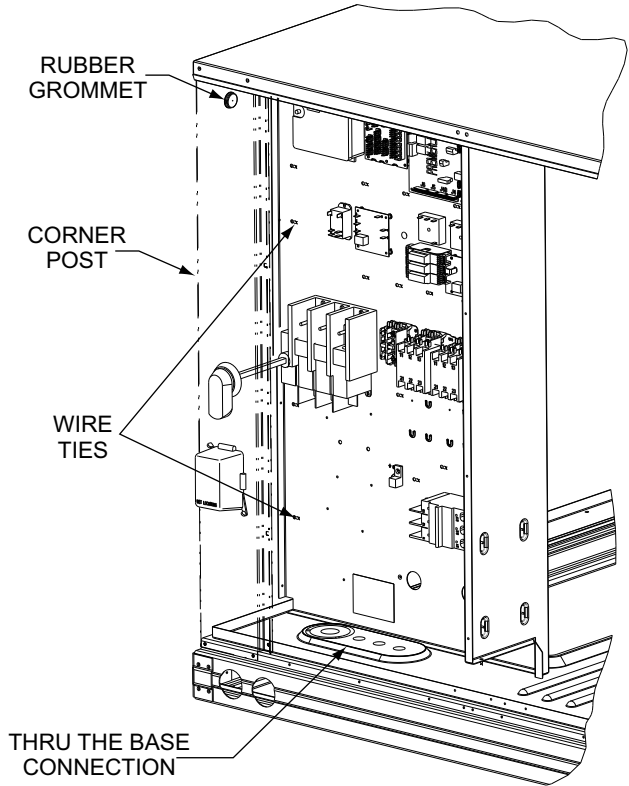

Fig. 58 — Field Control Wiring Raceway
Correctly rated low voltage wire can be routed through the rubber grommet located on the corner post adjacent to the control box access panel. Route wire through the grommet and then route the wire behind the corner post utilizing the factory provided wire ties secured to the control box. This will ensure separation of the field low voltage wire and the high voltage circuit. Route the low voltage wire to the Integrated Staging Control (ISC) board. See Fig. 58.
2. Feed wires through the raceway built into the corner post (see Fig. 58) to the 24v barrier located on the left side of the control box. The raceway provides the ETL-required clearance between high-voltage and low-voltage wiring.